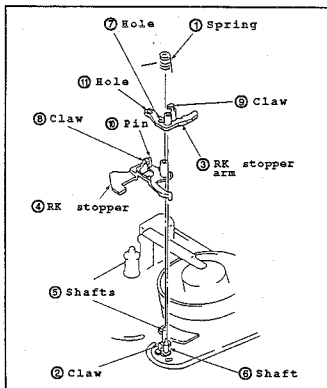

Fig.II-13
• Disassembling (Fig.II-13)
- (1) Remove the screw ①.
- (2) To take off the RK stopper arm ③, unhook the claw ② of chassis.
- (3) Take off the RK stopper ④.
• Reassembling (Fig.II-13)
- (1) Assemble the RK stopper ④ onto the shaft ⑤.
- (2) Assemble RK stopper arm ③ onto the shaft ⑤ while inserting the pin ⑥ to the hole ⑦. Then, secure it by hooking the claw ② to the hole ⑦.
- (3) Install the spring ① to the shaft ⑤. Then, hook it to the claws ⑧ and ⑨, respectively.